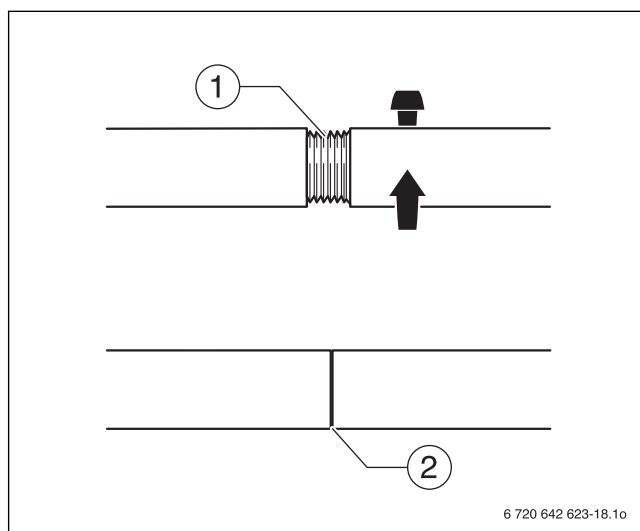

Fig. 19 Boiler assembly tool 2.3
- ▶ Always check the tie rods before each use and retighten as necessary. The tie rod is correctly positioned if it is fully inserted and no threads are showing (→ Fig. 19, [2]).
- ▶ Always keep the threads (→ Fig. 19, [1]) clean. Dirty threads may damage the assembly tool during assembly.